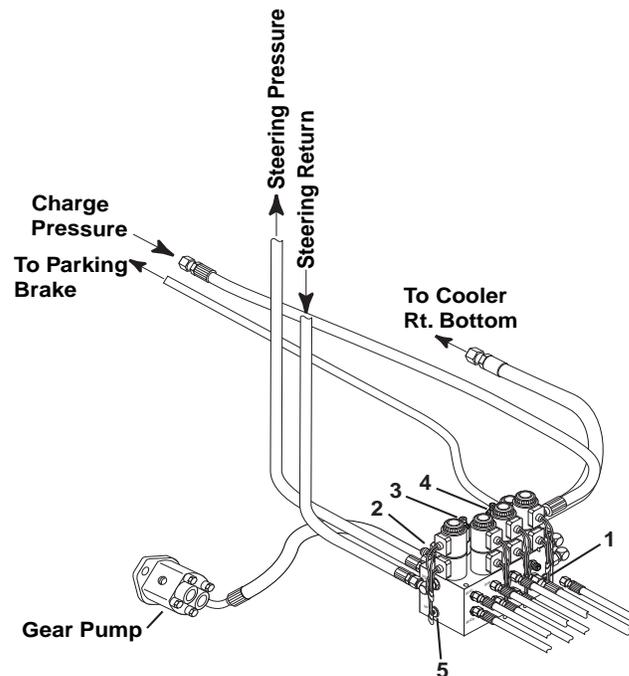

Figure 35. Hydraulic Control Assembly
3) If the pressure is low, remove cap from top of relief valve using vise grips (figure 35 Ref ?) and adjust set screw clockwise using a 1/4” allen wrench. If pressure is high, adjust set screw counterclockwise.
3) If the pressure is low, remove cap from top of relief valve using vise grips (figure 35) and adjust set